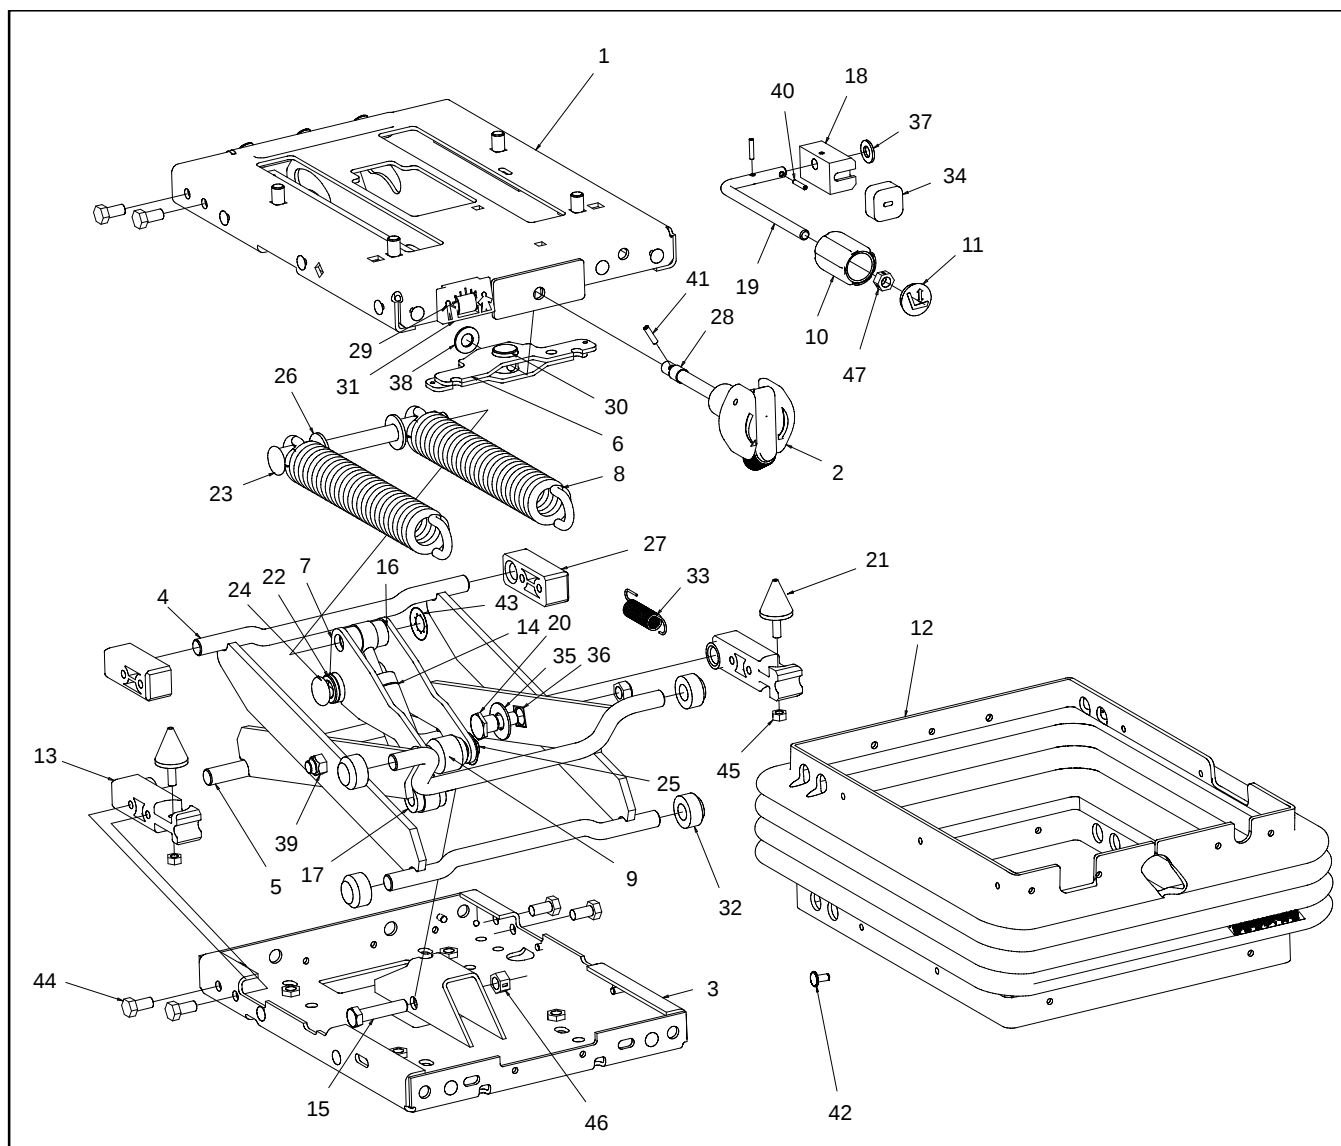

Figure 9
Removal (Fig. 9)
3. Remove mechanical seat suspension components as needed using Figures 9 and 10 as guides.
Installation (Fig. 9)
1. Install mechanical seat suspension components using Figure 9 and 10 as guides.